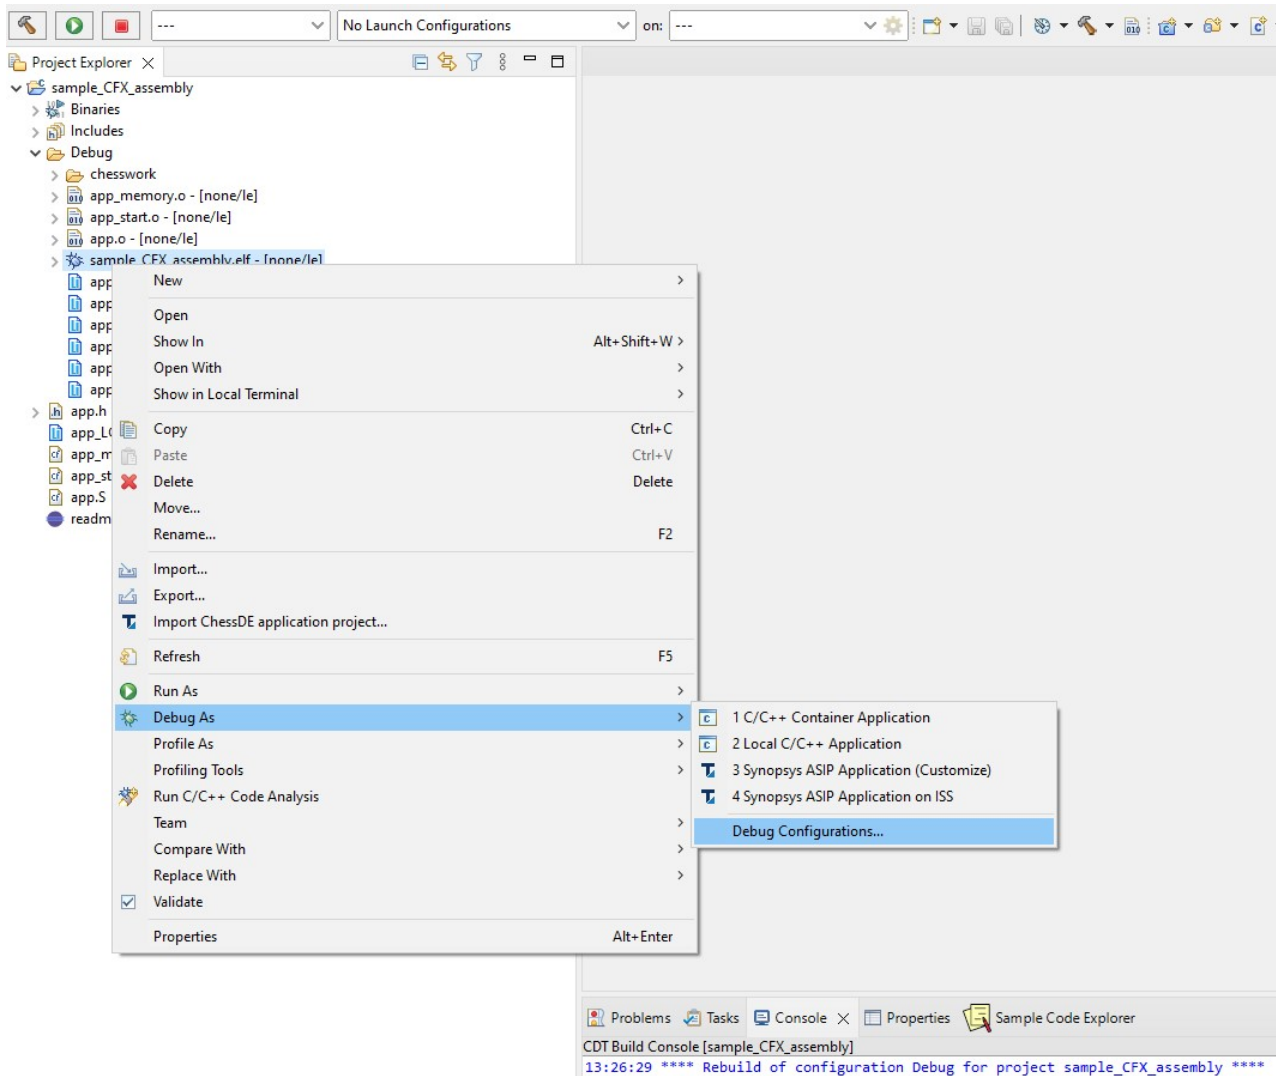
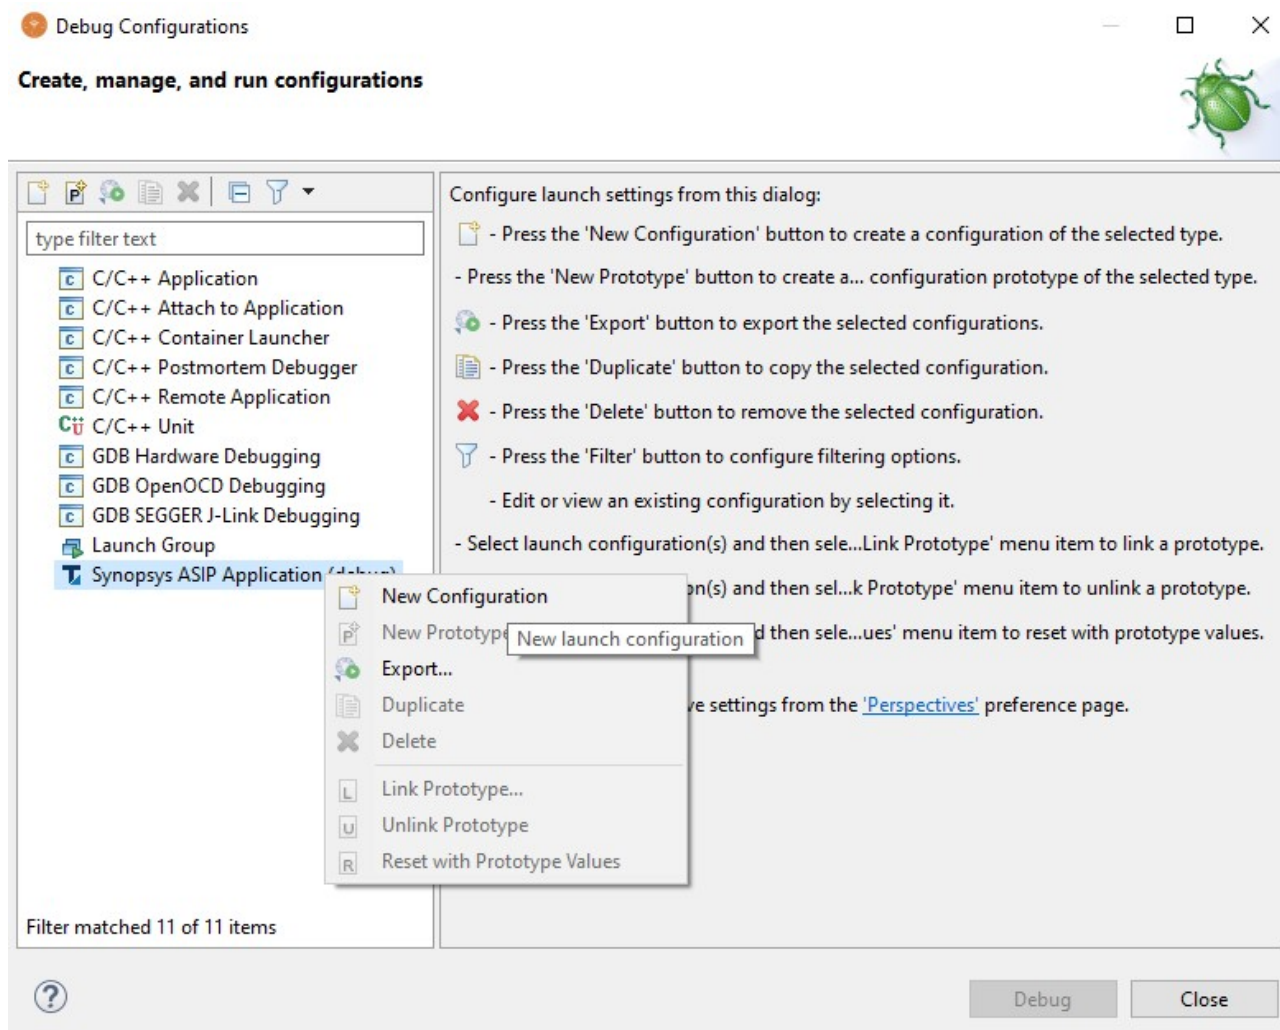
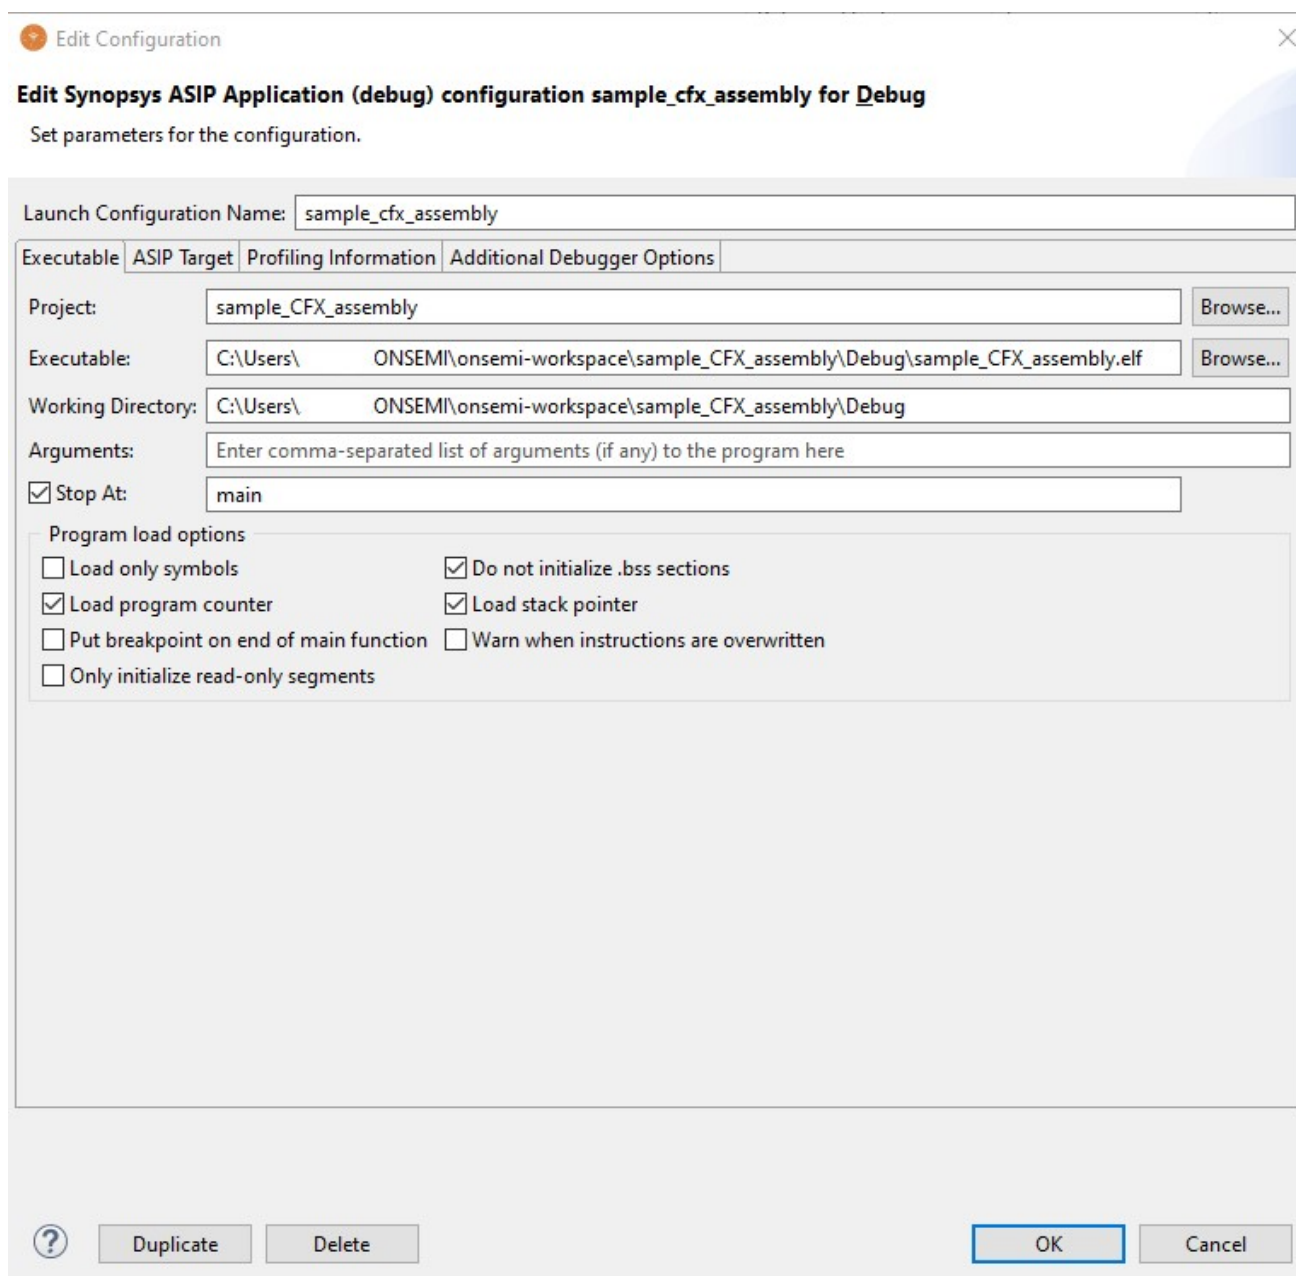

Figure 14. Creating CFX Assembler Debug Configuration, Step 1
Figure 15. Creating CFX Assembler Debug Configuration, Step 2
Figure 16. Selecting Project and Executable for Debug Configuration
1. Right click on the built `.elf` file (`sample_CFX_assembly` in this case) and select **Debug As > Debug Configurations** or select **Synopsys ASIP Application (Customize)** to directly create a new debug configuration with pre-filled values. (See the figure "Creating CFX Assembler Debug Configuration, Step 1" (Figure 14))
2. The **Debug Configurations** dialog is displayed. Right click on the **ASIP Designer Application** configuration type and select **New** (as shown in the figure "Creating CFX Assembler Debug Configuration, Step 2" (Figure 15)).
- a. In the **Executable** tab view, select your desired **Project** (in the figure "Creating CFX Assembler Debug Configuration, Step 1" (Figure 14), **sample_CFX_assembly**) and **Executable** (in the figure "Creating CFX Assembler Debug Configuration, Step 2" (Figure 15), **C:\eclipse-workspace\sample_CFX_assembly\Debug**). See the figure "Selecting Project and Executable for Debug Configuration" (Figure 16).